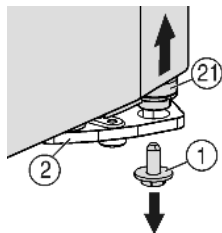
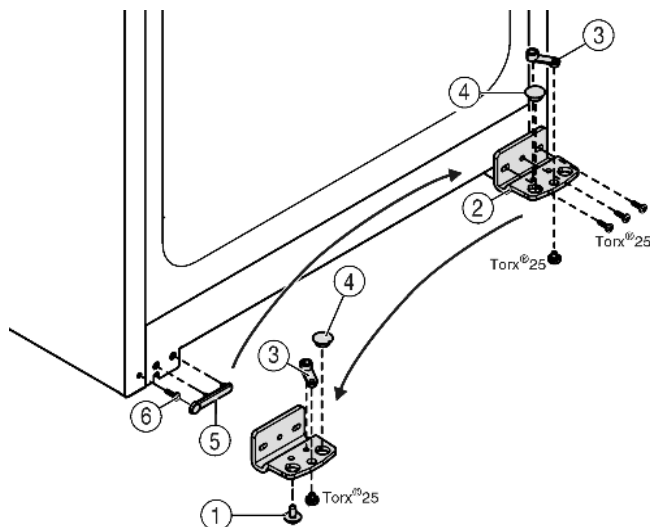

Fig. 4
Fig. 5
- The bearing pin *Fig. 4 (21)* should come out of the turn hinge *Fig. 5 (2)*.
- If the bearing bolt *Fig. 4 (21)* doesn't undo press it out from underneath.
- Unscrew the turn hinge *Fig. 5 (2)*.
- Unscrew the bearing element, *Fig. 5 (3)* transfer it to the opposite location hole of the turn hinge and screw it firmly into place.
- Take the stopper *Fig. 5 (4)* out of the turn hinge and transfer it to the receiving hole on the opposite side of the turn hinge.
- Carefully lift off the cover *Fig. 5 (5)* on the handle side.
- Undo the screw *Fig. 5 (6)* and transfer it to the opposite side.
- Put the cover *Fig. 5 (5)* back on.
- Screw the turn hinge *Fig. 5 (2)* firmly into place on the new hinge side (**with 4 Nm**), possibly using a power screwdriver.
- Insert the securing screw *Fig. 4 (1)* at the bottom into the bearing pin and tighten it (**with 4 Nm**).